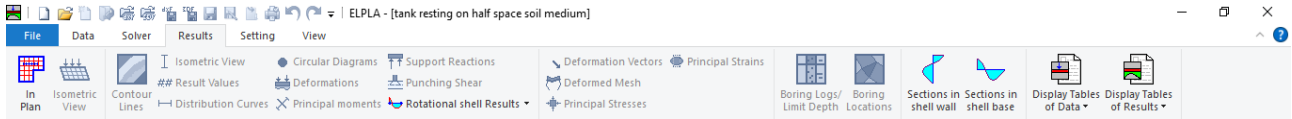

Figure 8.24 "Results" Tab
*ELPLA* can display and print a wide variety of results in graphics, diagrams or tables through the "Results" Tab. To view the data and results of a problem that has already been defined and analyzed graphically, switch to "Results" Tab (Figure 8.24).